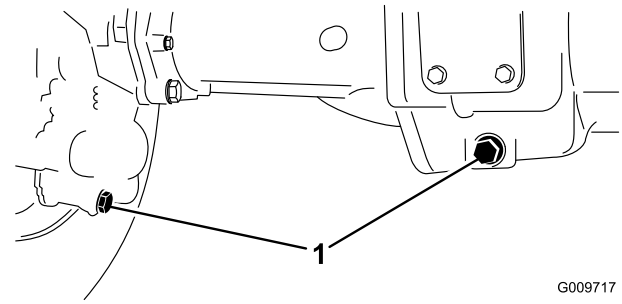

Figure 70
2. Clean the area around the 3 drain plugs, 1 on each end and 1 in the center (Figure 70).